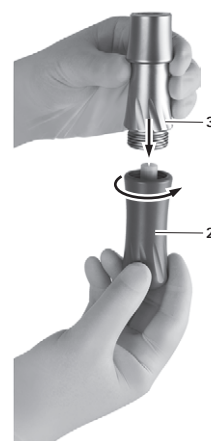

Fig. 3
- Align connector piece 3 on the top end of cartridge sleeve 2 and screw it down to the positive stop, see Fig. 3. The CO₂ cartridge 4 is pierced.